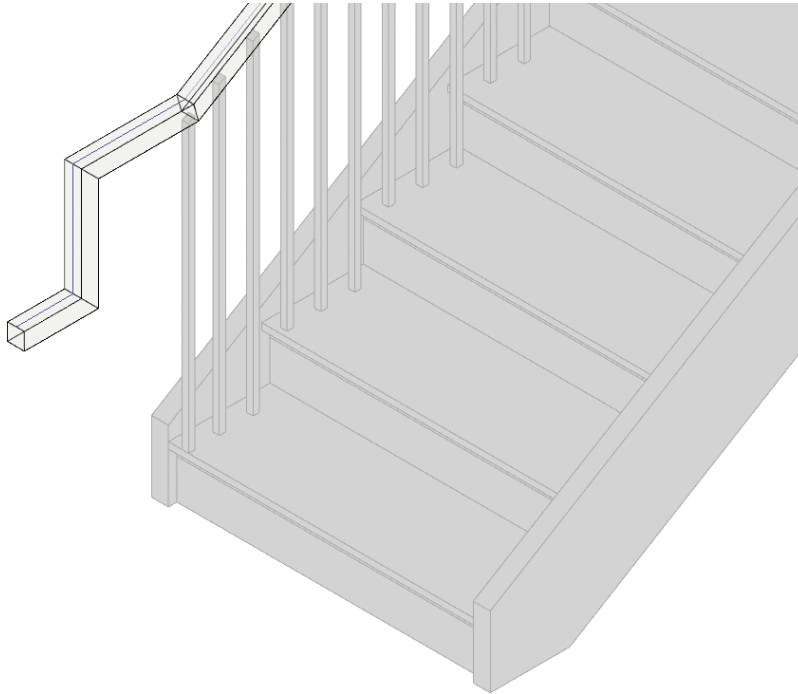

FIGURE 4.25 Updated top rail path
6. Draw a custom path for the top rail starting at the endpoint of the existing path, similar to Figure 4.25.